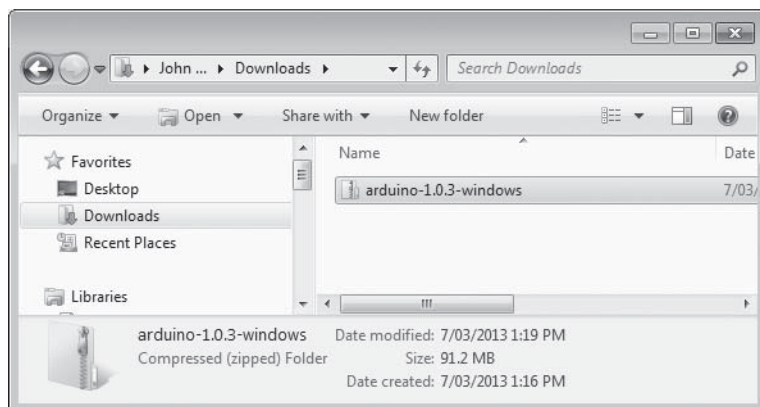

Figure 1-18: The IDE package
3. Once the download is complete, double-click the file, and the window shown in Figure 1-18 will appear.